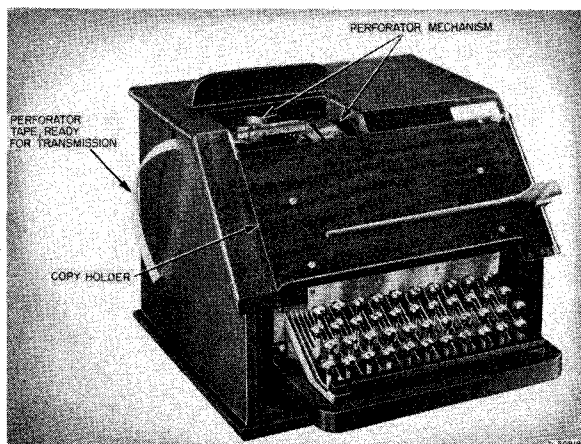

Figure 6. Typical tape perforator.
a. For automatic transmission, the equivalent of dots and dashes are first perforated in an oiled paper tape (15/32 inch wide) by a Wheatstone perforator which has a typewriter keyboard (fig. 6) or by other means of perforating tape.